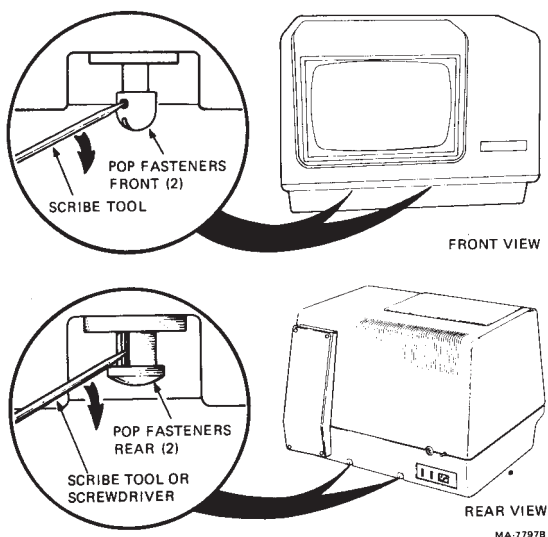

Figure 2-7 Top Cover Removal
2. Use the scribe to release the two front pop fasteners located under the front lip of the terminal monitor (Figure 2-7).
3. Use the scribe to release the two rear pop fasteners located on the lower rear edge of the bottom cover (Figure 2-7).